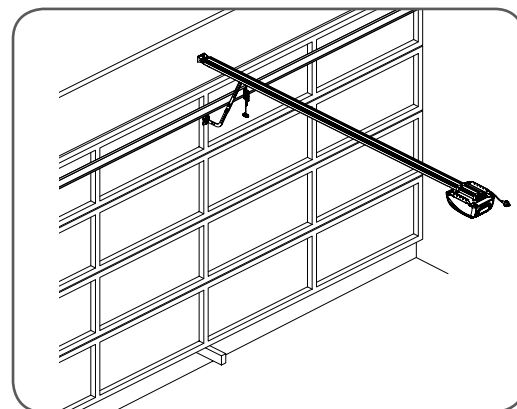

fig 29
- Place a piece of timber approximately 50mm high on the floor directly under the door (Fig 29).